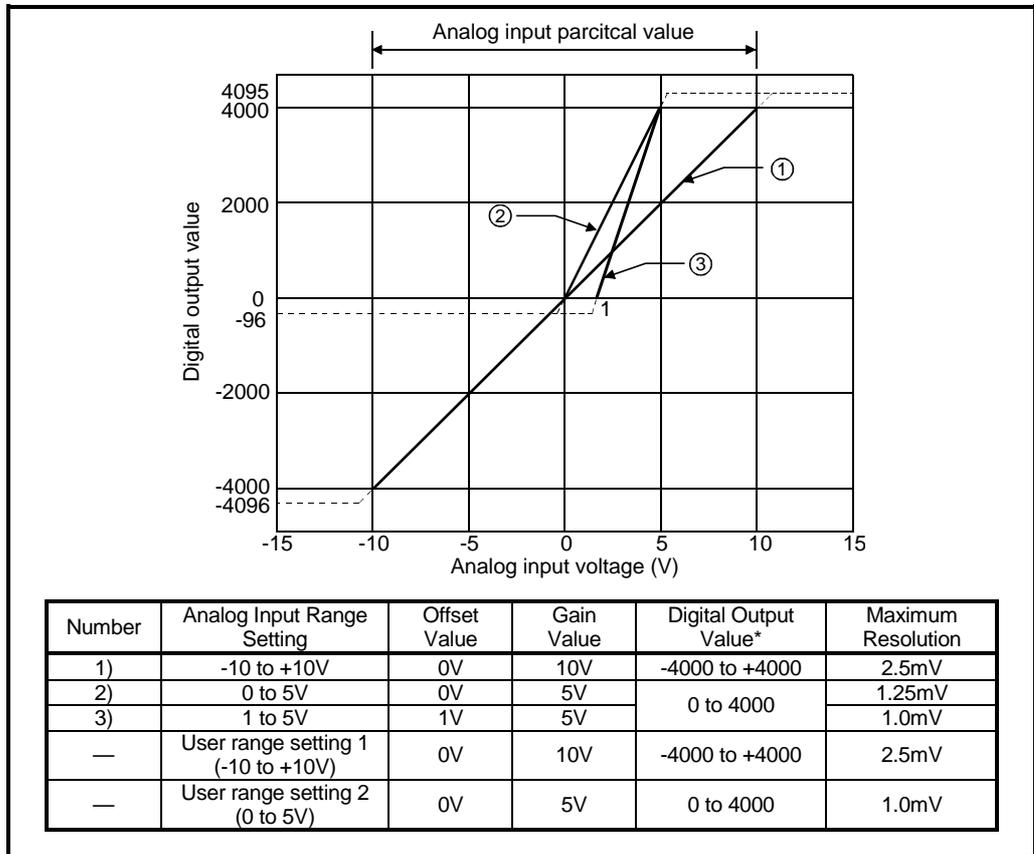

Fig. 3.1 Voltage Input Characteristic of the AJ65VBTCU-68ADV
| (3) Within the analog input and digital output scopes of each input range, the maximum resolution and accuracy are within the performance specification range. Outside those scopes, however, they may not fall within the performance specification range. (Avoid using the dotted line part in Fig. 3.1.) |